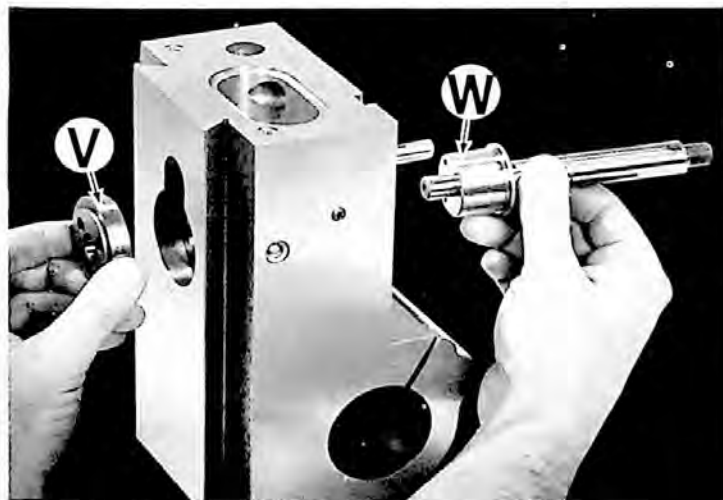

Figure 43 — Cam and Camshaft Removal
18. Remove three screws "U", Figure 42. Remove cam "V", Figure 43, and camshaft "W".
1. Replace cam shaft "W", Figure 43. Line up keyway with key and replace cam "V". Replace three screws "U", Figure 42.